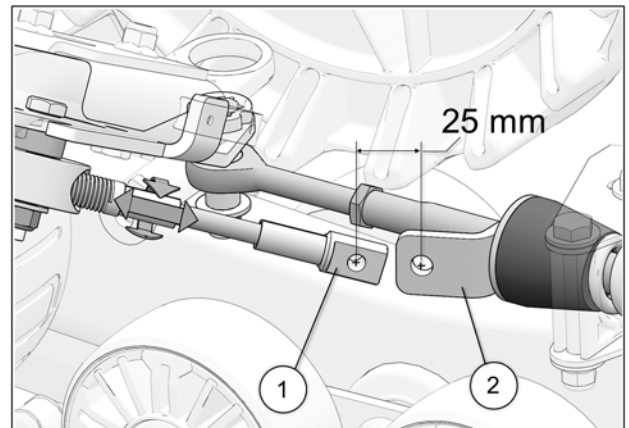

Fig. 29
19. Turn the vehicle's steering wheel to its maximum point of travel on the left. While maintaining pressure on the steering wheel, turn threaded rod to adjust length of cable. See Fig. 29
20. Position cable end hole (1) 25 mm [1 in.] short of support plate (2) mounting hole. See Fig. 29